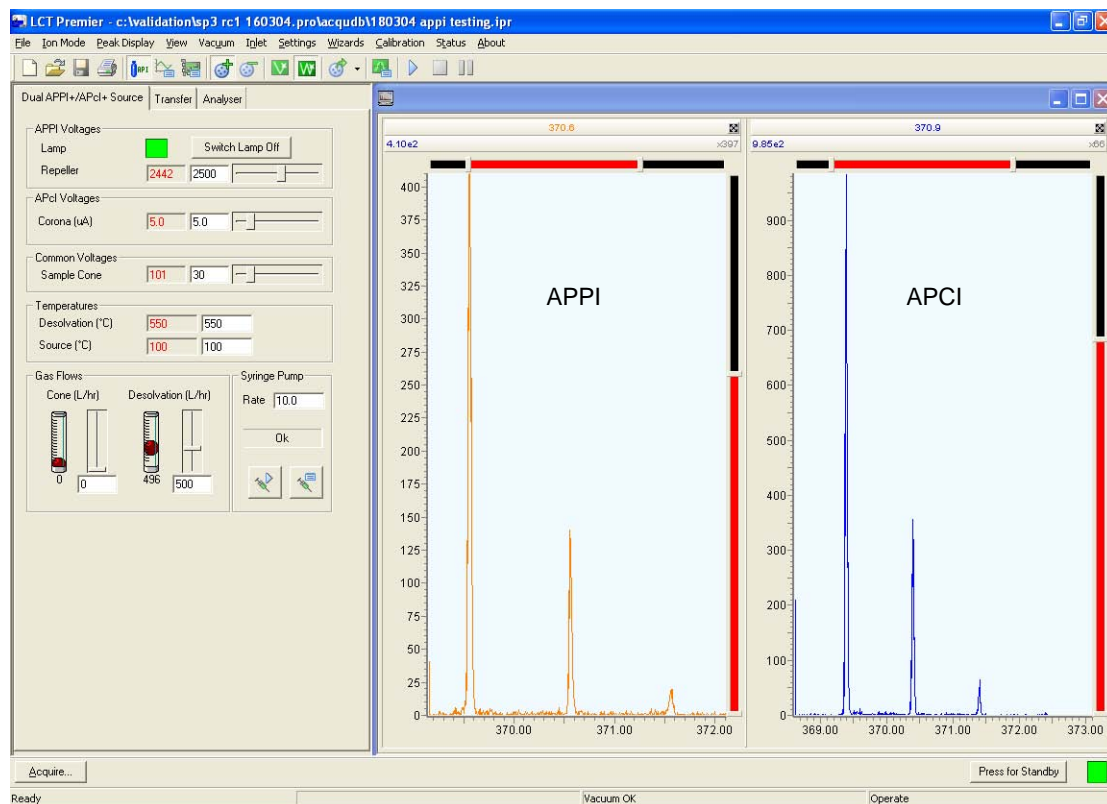

Figure 5-15 Dual Mode APCI/APPI
The APPI spectrum is displayed in the left pane and colored orange. The APCI spectrum is displayed in the right pane and colored blue (Figure 5-15).
14. Observe the two peaks in the Tune window (Figure 5-15)
The ESI spectrum is displayed in the left pane and colored red. The APCI spectrum is displayed in the right pane and colored blue (Figure 5-15).